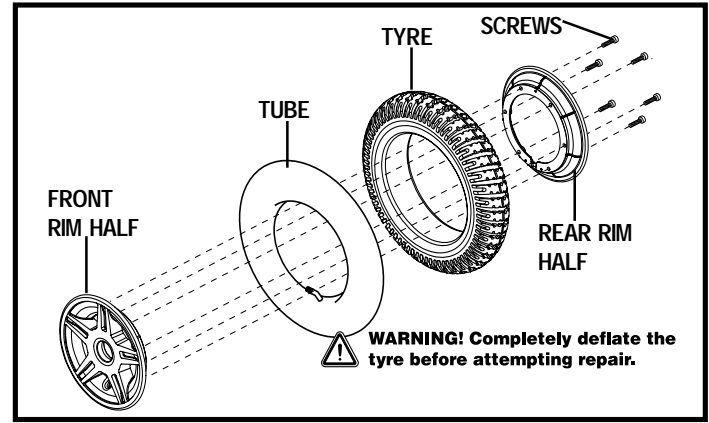

Figure 23. Jazzy Select 14 Series Drive Wheel Disassembled
6. Remove the screws that fasten the two rim halves together. See figure 23.